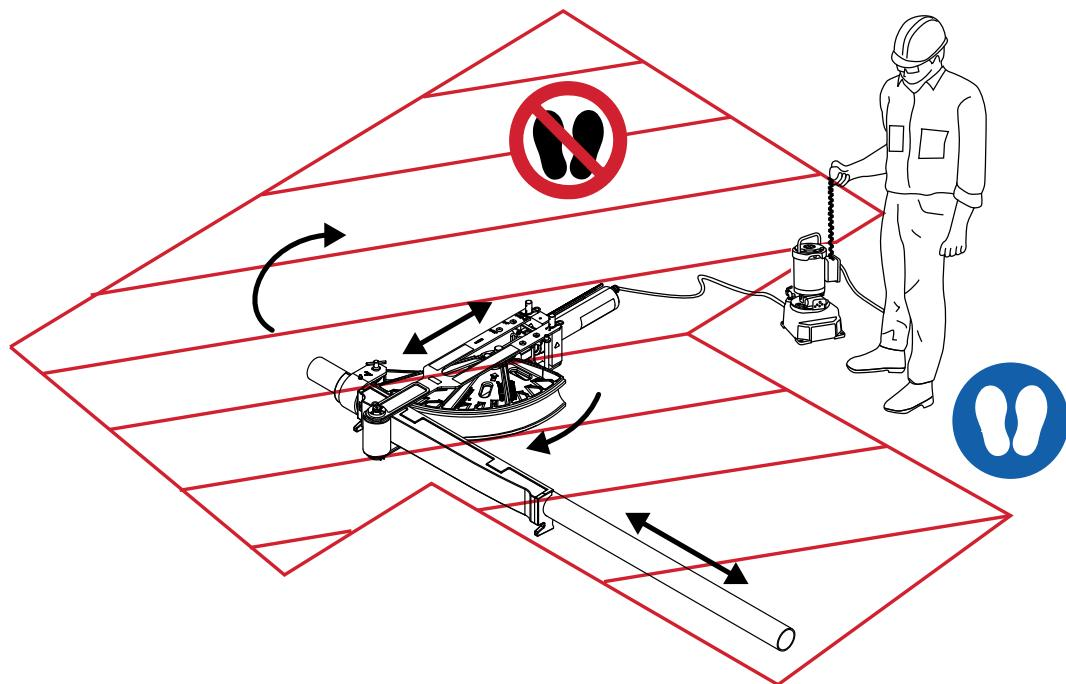

Figure 14
22. Assume a proper operating position where you are not in the path of the conduit or ram and can clearly see the bender scale and pump. (Fig.14)